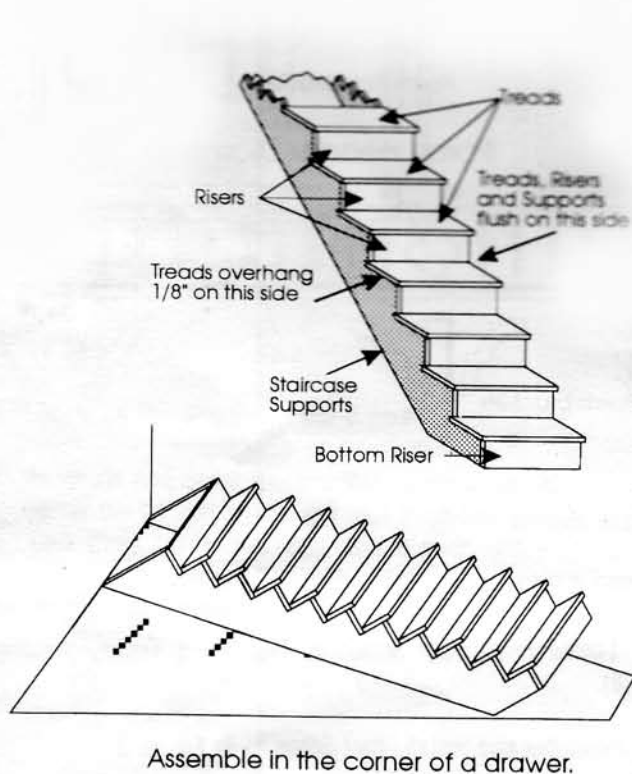

Figure 38
- a. Set the two Staircase Supports on the longest flat edge with the point in the corner of a drawer. Glue Risers in place. Glue Treads in position leaving 1/8" overhang over the left edge. See Figure 38.